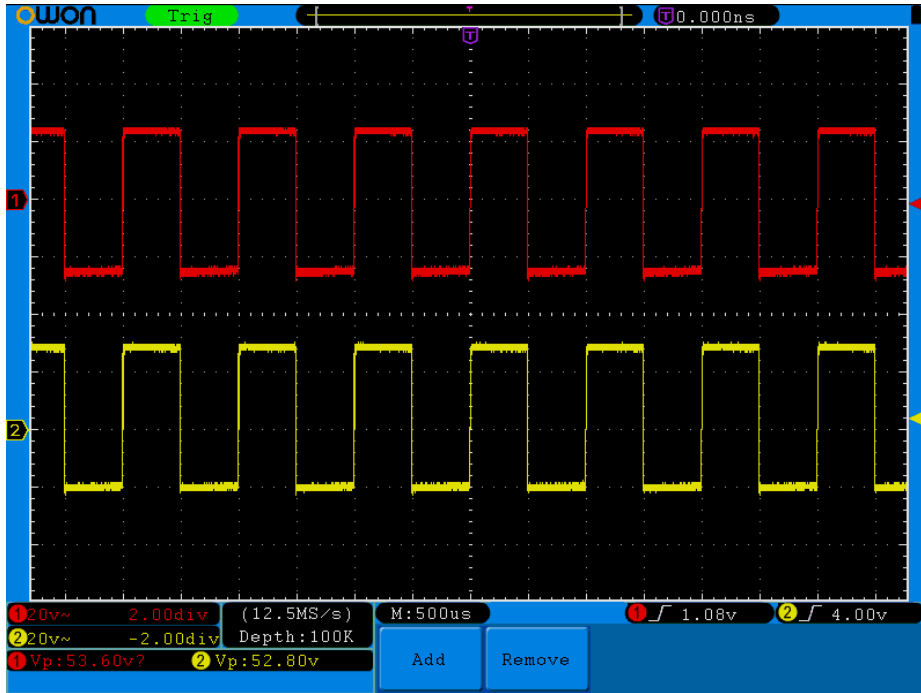

Fig.6-2 Waveform of Gain Measurement
- (1) Press the **Autoset** button and the oscilloscope will automatically adjust the waveforms of the two channels into the proper display state.
- (2) Press the **Measure** button to show the Measure menu.
- (3) Press the **H1** button.
- (4) Press the **F2** button and choose **CH1**.
- (5) Press the **F1** button and turn the **M** knob to choose **PK-PK**.
- (6) Press the **F2** button and choose **CH2**.
- (7) Press the **F1** button again and turn the **M** knob to choose **PK-PK**.
- (8) Read the peak-to-peak voltages of Channel 1 and Channel 2 from the bottom left of the screen (See **Fig.6-2**).
- (9) Calculate the amplifier gain with the following formulas.